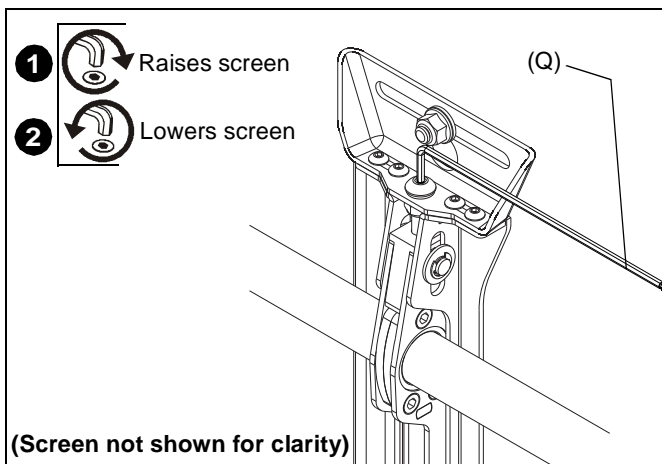

Figure 17
1. Turn to right (tighten) to raise side of screen. (See Figure 17)